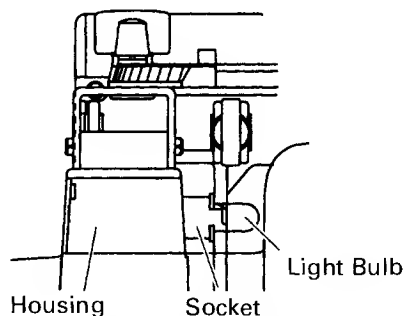

Fig. 22 (Top View)
- (3) Remove the light bulb from the socket. (Fig. 22)
- When attaching the socket to the housing, align the socket with the hole of housing while watching the back of the socket shown in Fig. 22, and insert the socket until it lightly bumps against the housing.